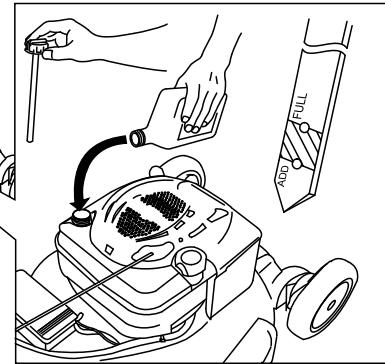

Figure 12
1. Remove the dipstick, wipe it clean, and fully install the dipstick (Figure 12).
2. Remove the dipstick and check the oil level (Figure 12). If the oil level is below the Add mark on the dipstick, slowly pour oil into the oil fill tube to raise the oil level to the Full mark on the dipstick. **Do not overfill.** (Max. fill: 20 oz. (0.59 l), type: SAE 30W detergent oil with an API service classification of SF, SG, SH, SJ, SL, or higher.)